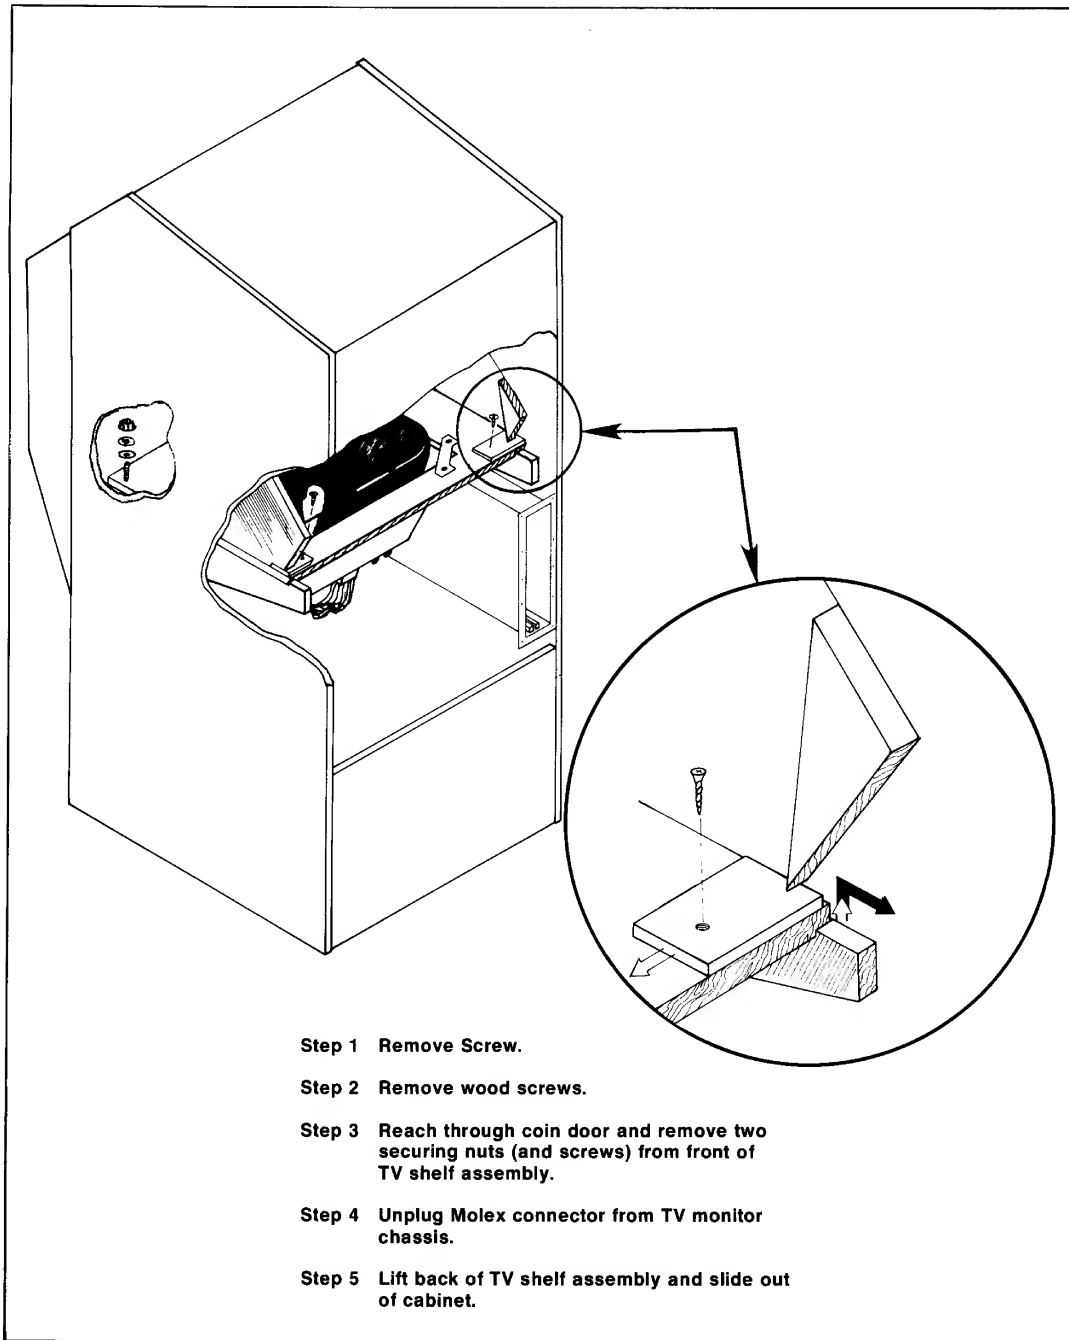

Figure 3-10 Removal of TV Monitor
D. TV MONITOR REMOVAL (Refer to Figure 3-10)